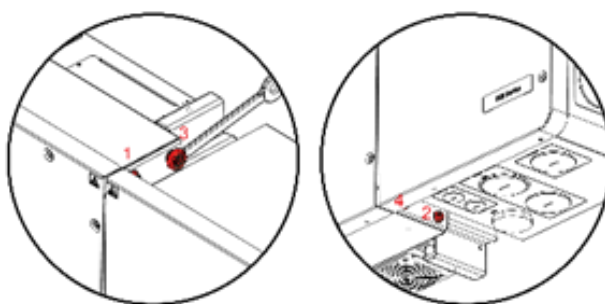

Figure 3-17 Tighten the M8 Nuts
- f. Tighten the M8 nuts in the following order: 1 → 2 → 3 → 4, then repeat to confirm that all nuts are tightened securely (Figure 3-17):